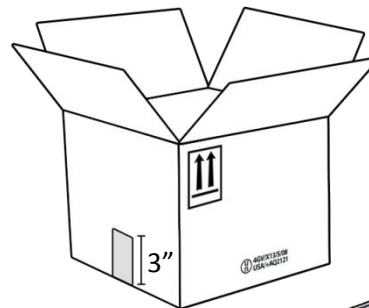

Figure 2
2. Seal center seam with three (3) strips of 48mm wide, 3M #305 clear packing tape (or equivalent). The tape must overlap $\frac{1}{2}$ " side to side and extend beyond each edge by at least 3". (See Figure 2)